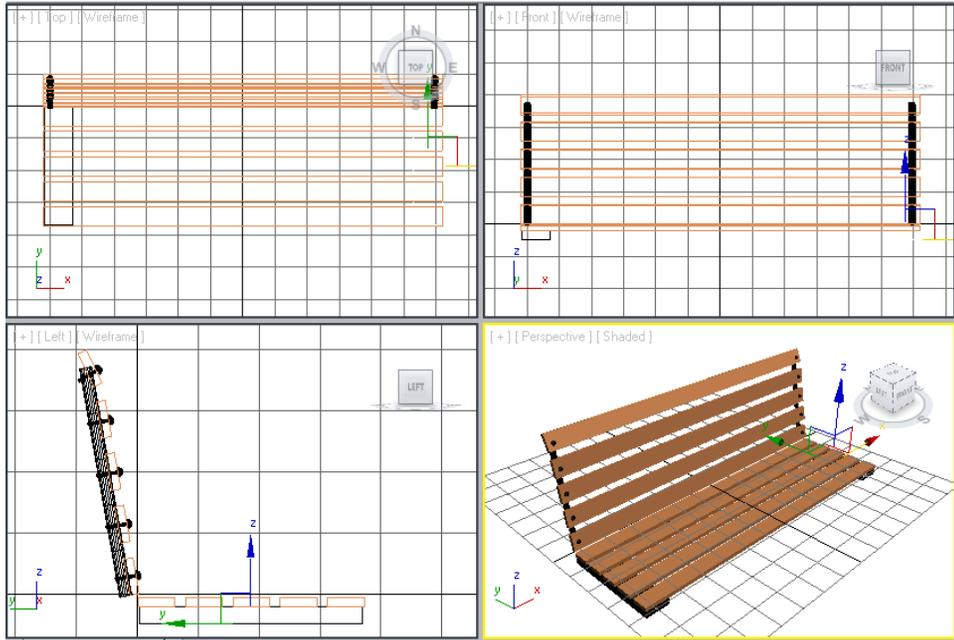

Figure 2-77 Alignment of leg support002 with horizontal seat support
7. Choose the **Select and Move** tool and align *leg support002* to *horizontal seat support* in all viewports, as shown in Figure 2-77.